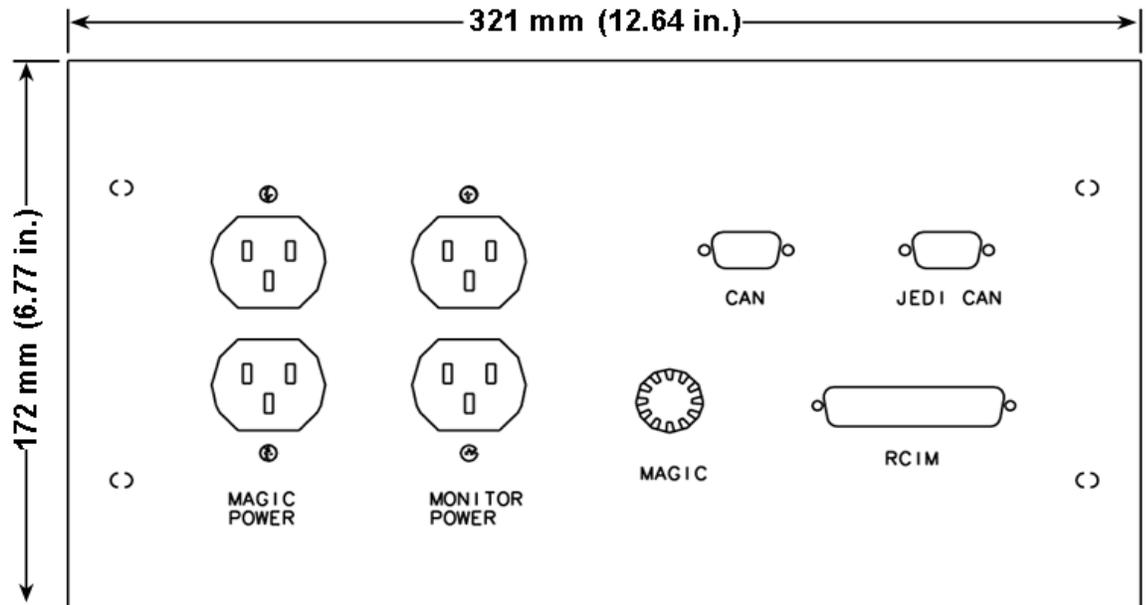

Figure 5-1 Wall Plate Dimensions
- Operator Console - Figure 5-2 through Figure 5-4 and Figure 5-1 (wall plate).